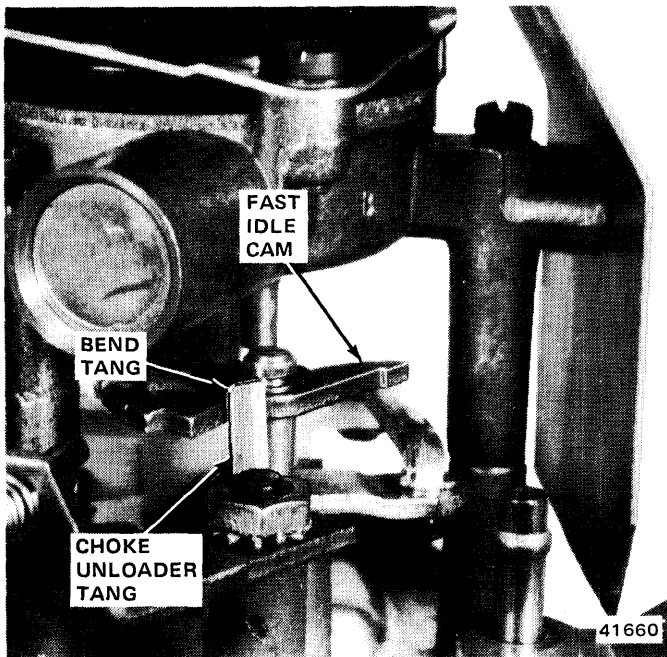

Fig. 4-109 Unloader Adjustment
(3) Adjust by bending unloader tang which contacts fast idle cam as shown in figure 4-109. Bend toward cam to increase clearance and away from cam to decrease clearance.